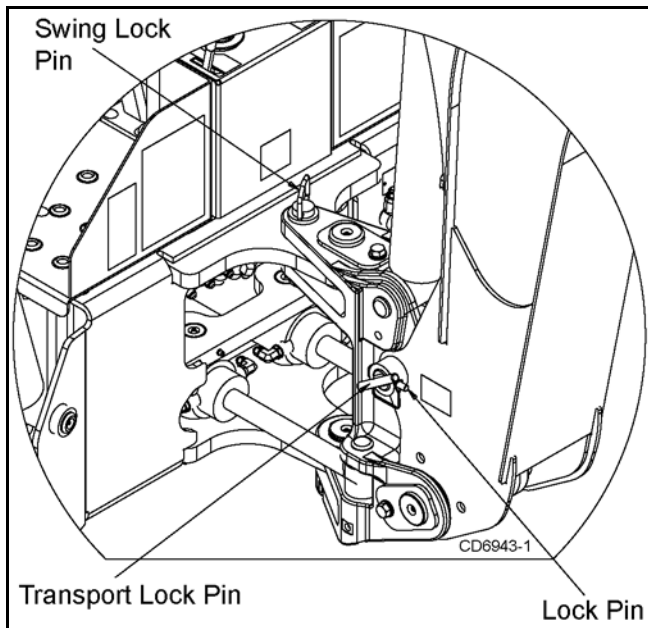

Figure 10. Transport and Swing Lock Pins Installed
2. Center boom from side to side and install swing lock pin through swing frame and main frame. Secure with klik pin. See Figure 10.